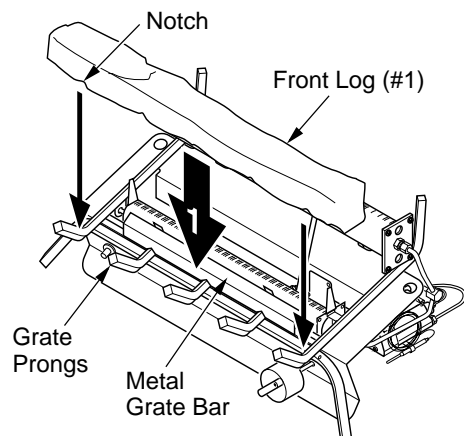

Figure 21 - Installing Front Log (#1) [18" Variable Manually-Controlled Set Shown]
1. Place front log (#1 for 18", #1a and #1b for 24" and 30") on top of the grate. Make sure the notches in the bottom of the log fits over the grate prongs (see Figure 21, page 15). Push back of logs flush with metal grate bar. Logs for 24" and 30" should fit with ends touching and a small realistic crack in the center.